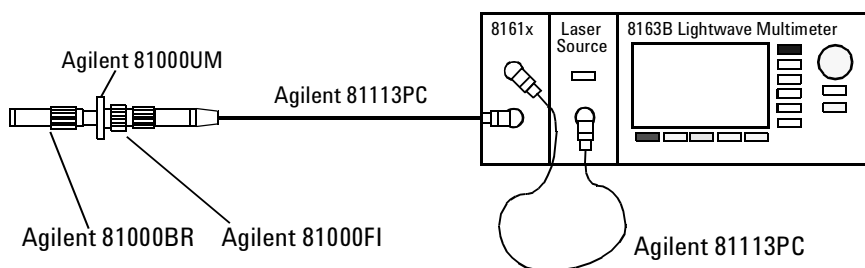

Figure 93 Reflectance Calibration - External Source
- 1 Making sure all the connectors are clean, set up the instrument as shown in Figure 93 if you are using an External Source.